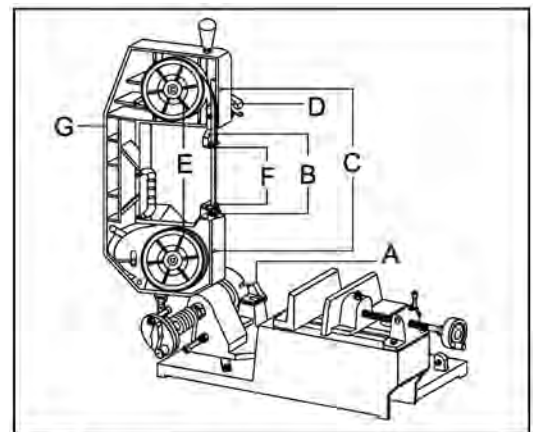

Fig. 6
1. Raise this saw head up-to 90 degree by lifting up knob (A) in Fig.6 a little bit to release the lock-pin, and slide it into the slot that is made for setting the saw arm in vertical position.
2. Remove this blade guards (B), and blade cover by loosening two screws (C) on the saw frame.
3. Push tension handle (D) Counterclockwise to let the blade slip off.
4. Remove blade from both wheels (E), and blade guide bearings (F).
7. Replace blade cover (G) and guards. And start the machine to see that the blade runs properly.